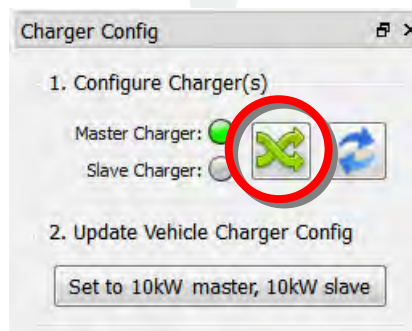

Figure 2
10. Click the switch button (Figure 2).